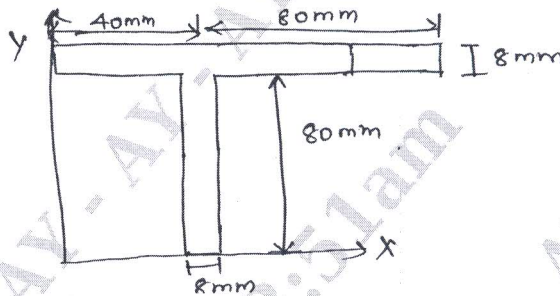

Fig. Q2 (b)
b. Find the maximum normal stress due to bending for the section shown in Fig.Q2 (b)